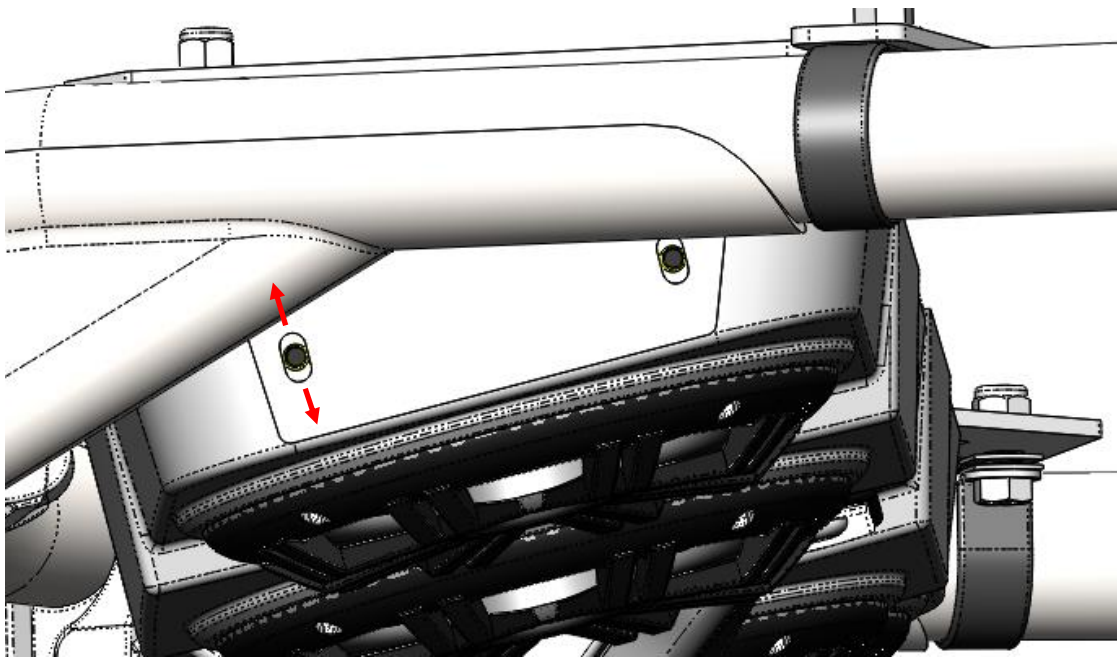

Figure 7: Up-down positioning of the Audio Mini.
5. Tighten the 4 mounting bracket bolts after achieving the desired viewing position. Slots in the brackets allow up-down movement. See Figure 7.